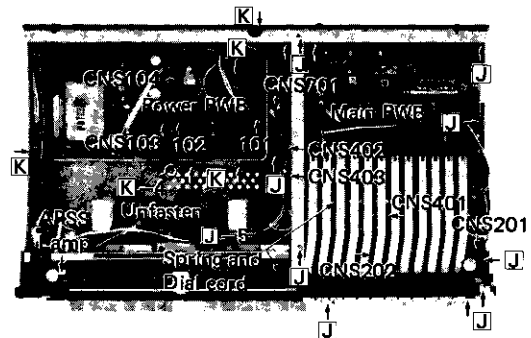

Figure 6-4
2. Detach twelve switch interlocking levers, pull out seven sockets (CNS101, CNS201, CNS202, CNS401, CNS402, CNS403 and CNS701) and one APSS lamp (PL401), all shown in Fig. 6-4; remove three sockets (CNS301, CNS302 and CNS303) shown in Fig. 6-1; and pull out seven knobs (record level, tape fader, mic mixing, balance, bass, and treble controls) shown in Fig. 6-2.
4. Remove nine screws from the main PWB. See Fig. 6-4.
2. Pull out four sockets (CNS101, CNS102, CNS103 and CNS104). See Fig. 6-4.
3. Remove five screws from the heat sink plate (power PWB). See Fig. 6-4.
4. Unfasten the one-touch start switch coupling lever, and take the power PWB out. See Fig. 6-4.